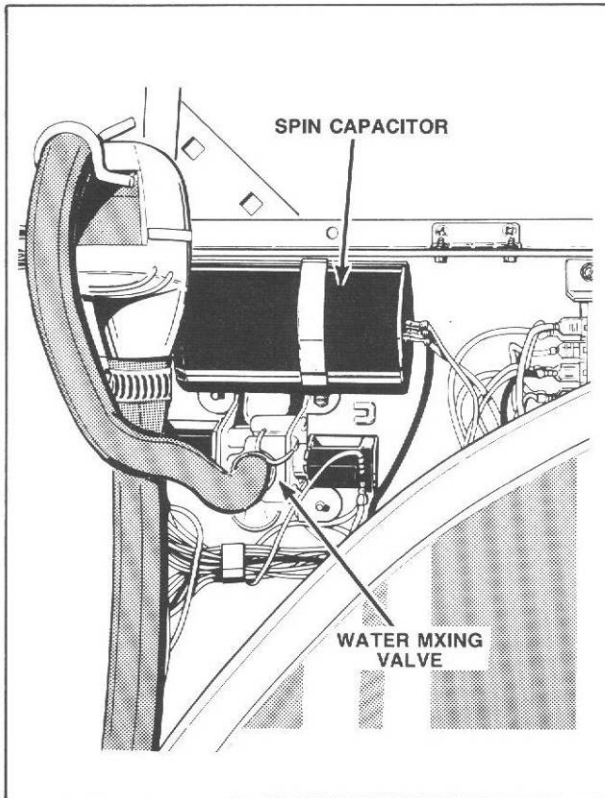

Figure 22
**25. WATER MIXING VALVE** (Refer to Figure 22)